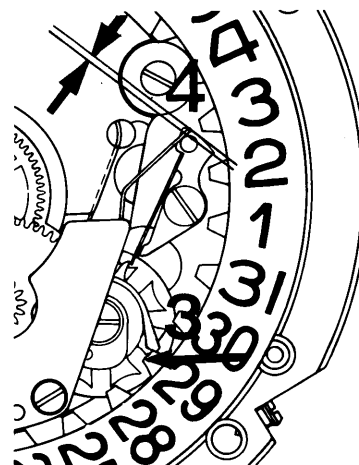

Fig. 10
Fig. 10: When the driving spring attacks the indicator tooth (3), the unlocking finger of the driving wheel has lifted the jumper (4), which releases the indicator. The driving spring then pushes the indicator tooth; at midnight, the unlocking finger releases the jumper, which then drops between the next 2 teeth of the indicator.
- 11.3.2. Place the movement in the position shown in fig. 10. When the driving spring comes into contact with the indicator tooth (3), its depth should be equal to half to one-third of the width of the tip of the driving spring. Also make sure that the reciprocal action of the driving spring and the tooth is correct, and that the
- jumper is slightly lifted, as at (4). If necessary, correct by altering the tension of the driving spring.
- 11.3.3. Place the movement in the position shown in fig. 10. Lifting the date-indicator driving wheel, make sure that the driving spring cannot foul the minute-work cock. If necessary, correct by reducing the endshake of the driving wheel (mill away material from shouldered screw No. 52556).